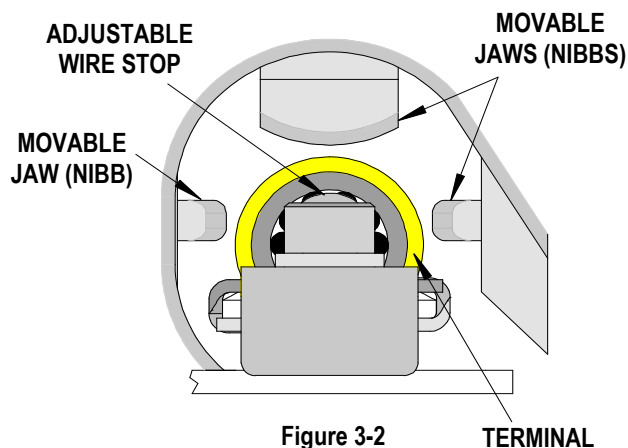

Figure 3-2
3. Position the terminal in the locator as shown in Figure 3-2 and 3-3. Insert the properly stripped wire into the terminal barrel. The wire ends should butt up against the wire stop of the locator.